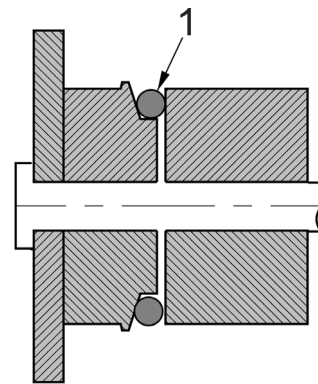

Figure 16
3. Remove old O-ring seal and install new O-ring seal (1, Fig. 16) onto bushing (2). Confirm that the O-ring seal on connecting rod cover (4) and bucket bushing has been thoroughly cleared